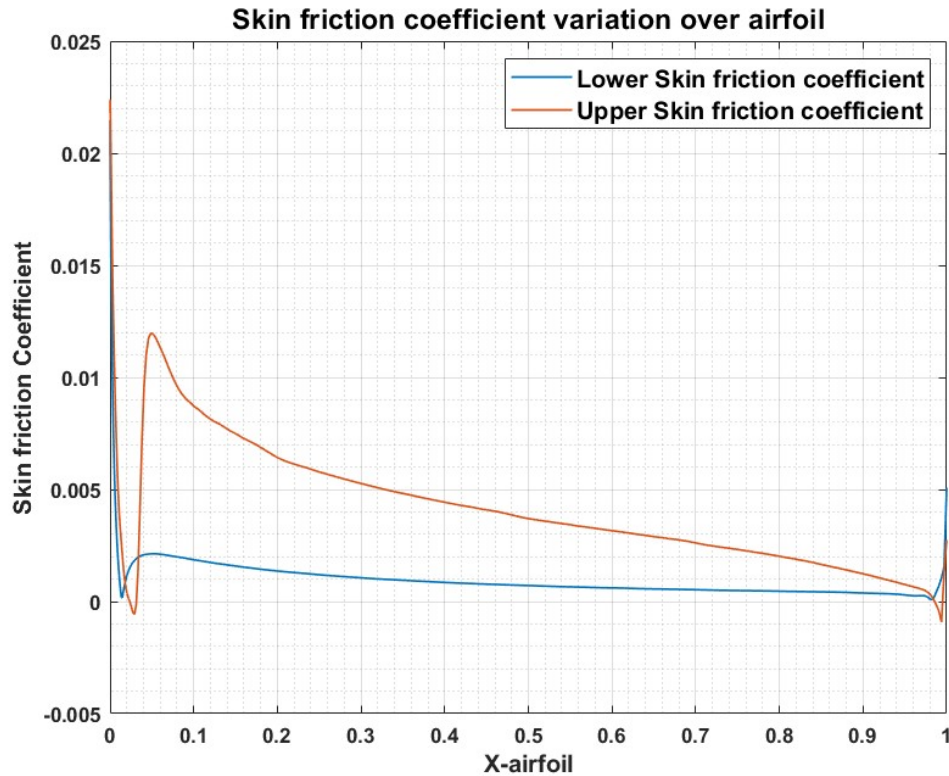

*Fig:3 – Coefficient of Pressure variation over the airfoil*
- Fig 3 shows the coefficient of Pressure plot for both the upper and lower surface of the airfoil.